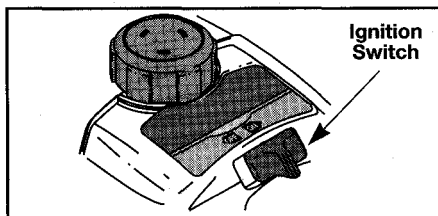

Fig. 9
2. Put the **IGNITION SWITCH IN THE "ON" POSITION** (Fig. 9).
10. To stop the engine, put the **IGNITION SWITCH IN THE "OFF" POSITION** (Fig. 9).